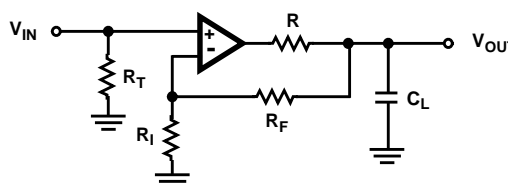

FIGURE 34. PLACEMENT OF THE OUTPUT ISOLATION RESISTOR, R
Capacitive loads will degrade the amplifier's phase margin resulting in frequency response peaking and possible oscillations. In most cases the oscillation can be avoided by placing an isolation resistor (R) in series with the output as shown in Figure 34.